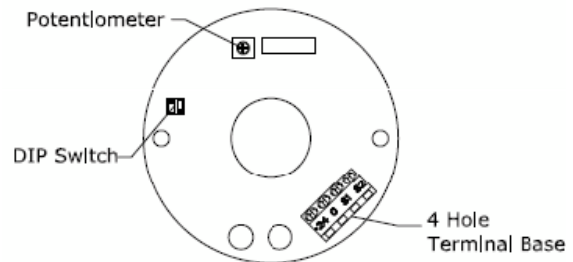

Fig. 4
**LED Type:** (See Fig 4)
As same as above LED type in Single Unit (See fig. 4)
Use **DIP Switch** with 2 binary codes on the **LED Beacon PCB** to select flashing or rotary status (including steady status). Adjust the **Potentiometer** on the **LED Beacon PCB** (see fig. 4) for frequency adjustment. For fastest stage frequency, the potentiometer should be set to fully clockwise position.